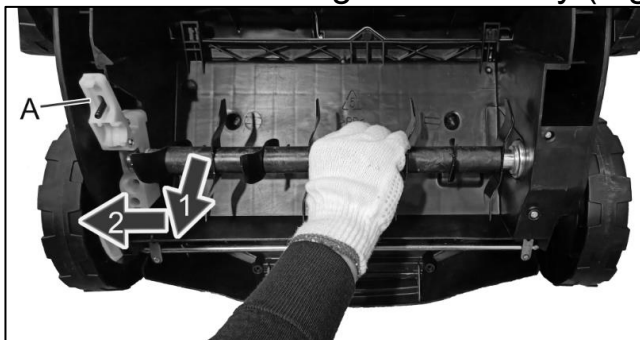

Fig.14
- b) Open the bearing cover (A), lift the roller then pull out the roller to the left to remove it. (Fig.14)